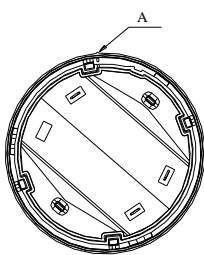
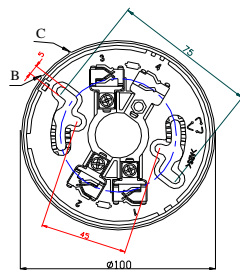

Fig. 2
Fig. 3
Bottom and DB-01(IS) base are shown in Fig. 2 and Fig.3
The explosion-proof base of the detector is shown in Fig. 3. First secure the detector base with two tapping screws, and then connects the DC power supply cable of the detector and the positive end of power output cable to Terminal No. 1, 3 and 2 of the base. Please note to connect Terminal No. 1 to the positive of power supply and Terminal No. 3 to negative. Terminal No. 2 connects with positive power output cable; Terminal No. 4 doesn't connect to any cable.
There are two marks B and C on the orientation base, and mark A on the detector bottom. Aligning mark A to B of the base, and rotating the detector clockwise to mark C, the detector will be installed onto the base. Refer to Fig. 2 and Fig. 3.